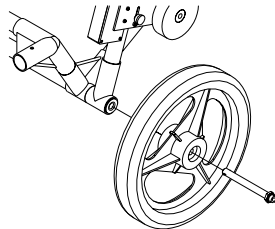

Figure 2-3: Attaching the wheel.
1. Attach wheels (if necessary): The Smart Cart may have been shipped without the wheels attached or they may have been removed for storage. If this is the case, find the axle for each wheel, press the button on the end of the axle, and insert the axle through the wheel and into the cart frame. This is shown in Figure 2-3.